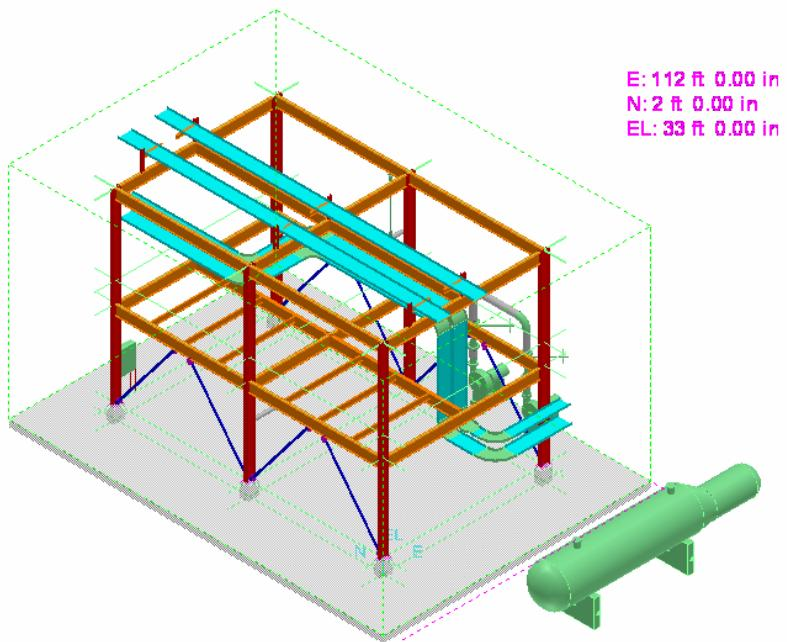

Figure 37: Outline of the Volume
- To place the fourth point of the volume, unlock the elevation coordinate by clicking the lock button beside the coordinate value and key in **EL: 33'**. The view of the model will resemble the one displayed in Figure 37.